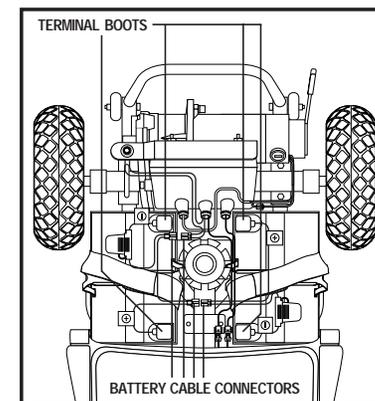

Figure 8. Battery Connections
6. Disconnect the red (+) positive and black (-) negative battery cables by pressing the locking tab on each cable connector and pulling them apart. **See figure 8.**